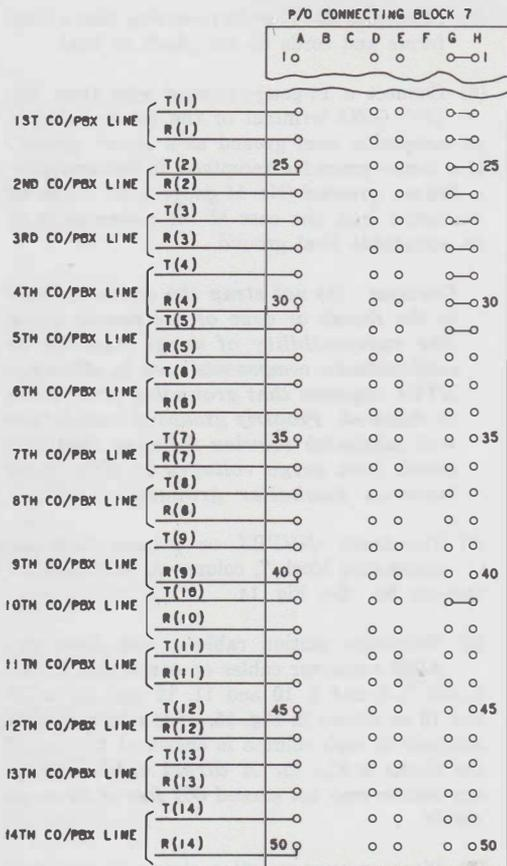

Fig. 14—Connections for Incoming CO/PBX Lines
- (7) Terminate CO/PBX or private lines on connecting block 7, column A, terminals 23 through 50. See Fig. 14.